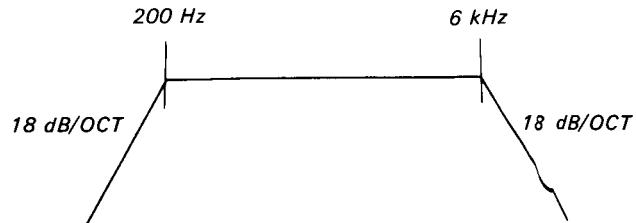

Fig. 8-43
*¹: The value when a distortion measuring filter (Fig. 8-43.) is used and that when the filter is not used is less than 1.0%.